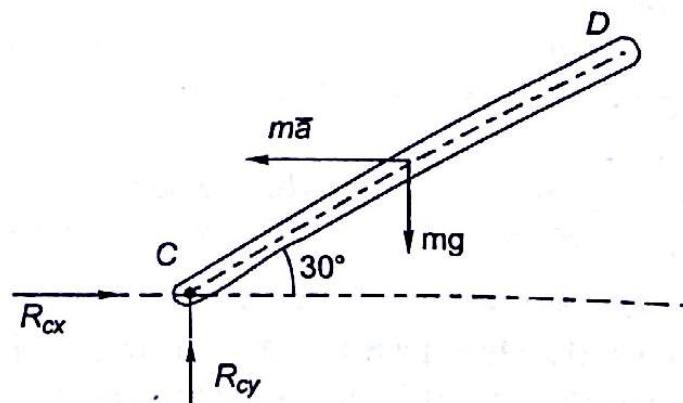

Fig. 15.20
15.4 A homogeneous bar CD has a mass of 6 kg and is attached by a frictionless pin at C and rests against a smooth vertical part of the cart. The cart has a mass of 80 kg and is pulled to the right by a horizontal force P as shown in Fig. 15.20. At what value of P will the bar exert no force on cart at D? Draw a free body diagram of the bar CD.
[Ans: 1461.2 N (Fig. 15.20)].